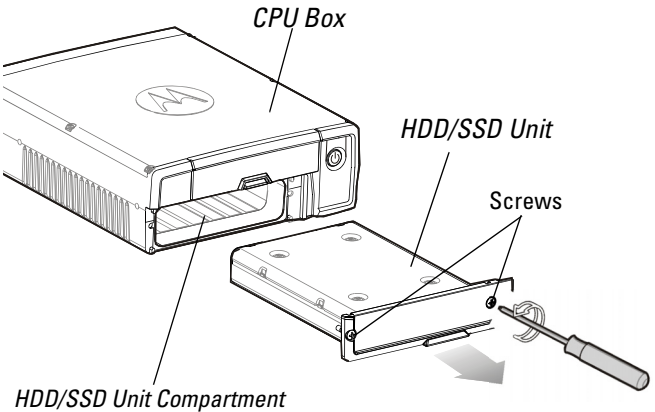

Figure 6. CPU Box - Removal of Hard Disk Drive/Solid State Disk Unit
3. Loosen the two screws securing the HDD/SSD Unit to the CPU Box (see Figure 6).